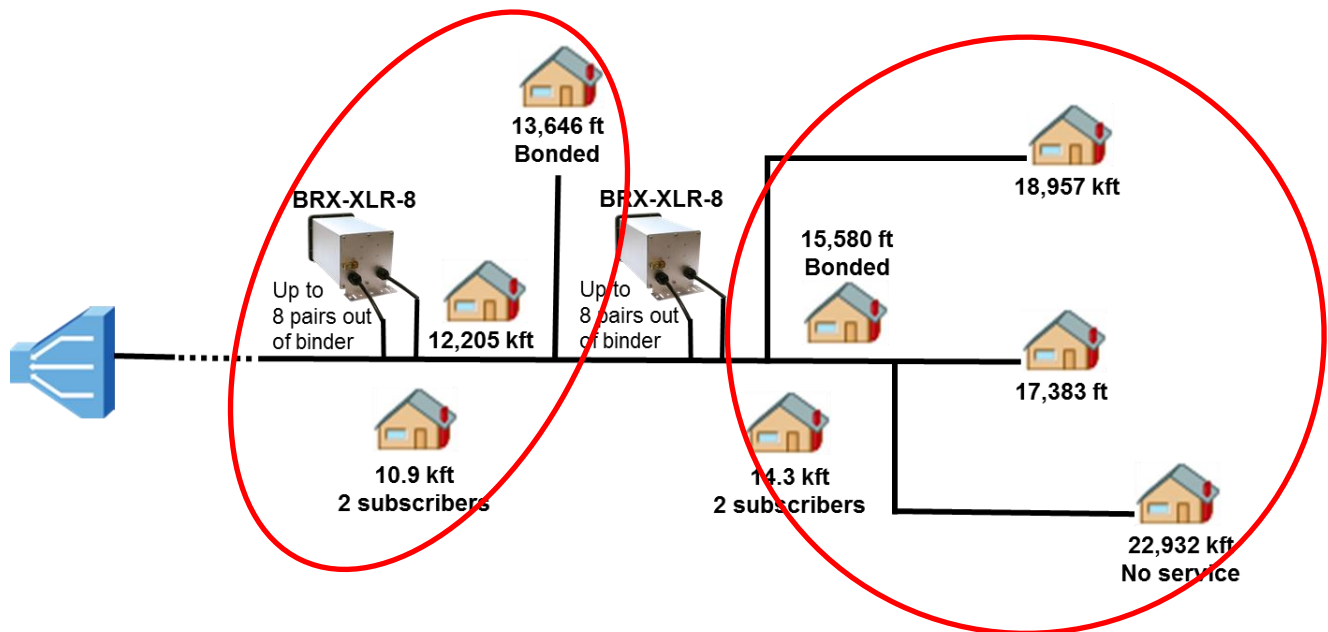

Figure 5: Using a pair of BRX-XLR-8 to serve two sub-sections of subscribers
**CASE 2 - Cluster of Subscribers split into two distinct groups:** Sometimes, the optimal placement determined for a BRX-XLR-24-1SXP 24-pair pedestal (based on the BRX-XLR Placement Instructions document) is such that it is not well positioned to serve a subset of the subscribers either because they would be too close or too far from the recommended location. In this case, it may be best to split the cluster into two sub-sections and plan for the deployment of two BRX-XLR assemblies to achieve the optimal coverage and performance. Please refer to Figure 5 below as an example of this situation.